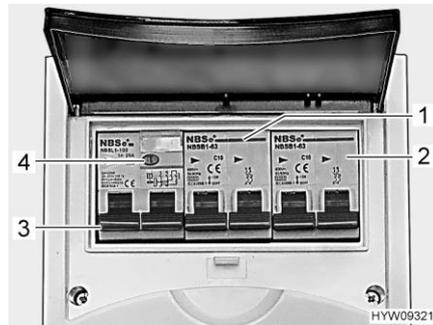

Fig. 102 Safety cutout and FI-switch (230 V fuse box)
A fault current protection switch (FI-switch) (Fig. 102,3) in the fuse box protects the complete vehicle from fault current (30 mA).
The downstream safety cut-out (10 A) (Fig. 102,1) secures the 230 V sockets, the transformer/rectifier, the auxiliary charging unit and the refrigerator.
For vehicles with special equipment, e.g. roof air conditioning unit, the device is protected by an additional safety cut-out (16 A) (Fig. 102,2).
- When the vehicle is connected to the 230 V power supply, press the test button (Fig. 102,4). The fault current protection switch (FI-switch) must be activated.